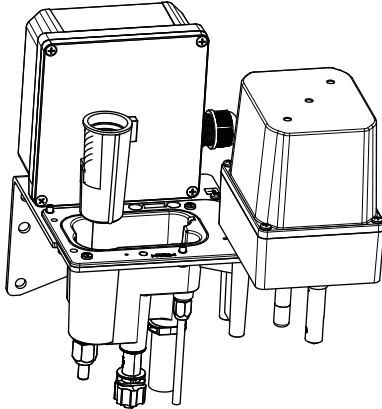

Figure 8.3 Maintenance position of the electrode unit
- (1) First turn on Maintenance mode then stop the measurement electrode.
- (2) After placing the electrode unit to the maintenance position (Figure 8.3), turn off the liquid flow pump from the solenoid valve pump operation screen to stop it.
- (3) With the beads in it, take out the bead case with the bead case cover together from the flow cell. The bead case cover is tightly attached, so be careful not to tear it.